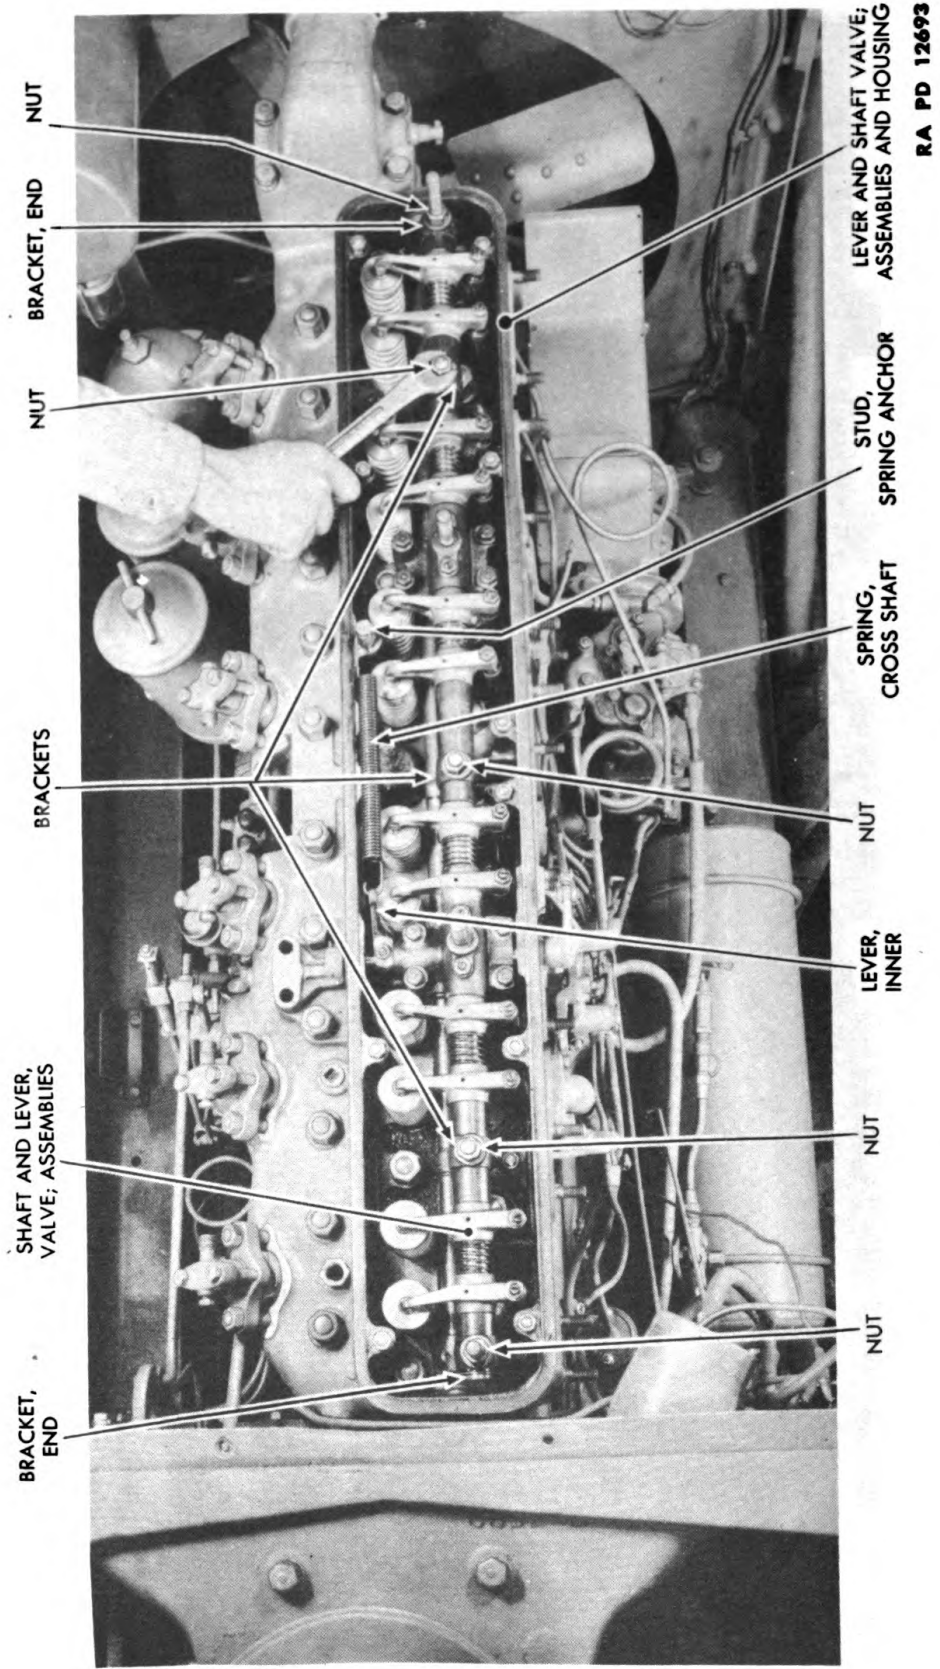

Figure 64— Valve Lever Assembly Removal
(14) REMOVE VALVE LEVER SHAFT BRACKET STUD NUTS (fig. 64).
(15) REMOVE CROSS SHAFT SPRING (fig. 64).